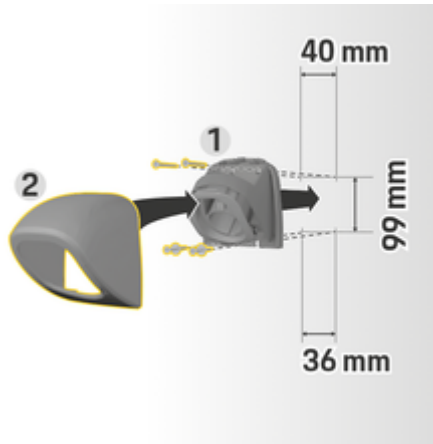

Fig. 5 Drilling dimensions
1. Remove plug holder 1 from the cover (Fig. 5) 2 (Fig. 5).
4. Screw the plug holder 1 (Fig. 5) to the wall.
5. Fit the cover 2 (Fig. 5) onto the plug holder 1 (Fig. 5) from below and press it upwards.